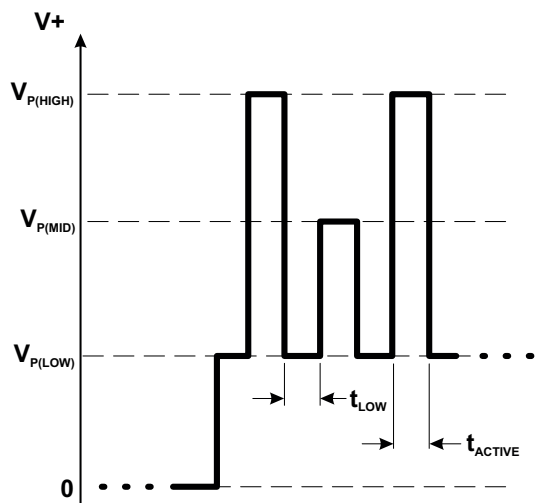

Figure 7: Parameter Selection Pulse Train
Each programmable mode/parameter can be accessed through a specific register. To select a register, a sequence of voltage pulses consisting of a V_{PH} pulse, a series of V_{PM} pulses, and a V_{PH} pulse (with no V_{CC} supply interruptions) must be applied serially to the VOUT pin. The number of V_{PM} pulses is called the key, and uniquely identifies each register. The pulse train used for selection of the first register, key 1, is shown in Figure 7.